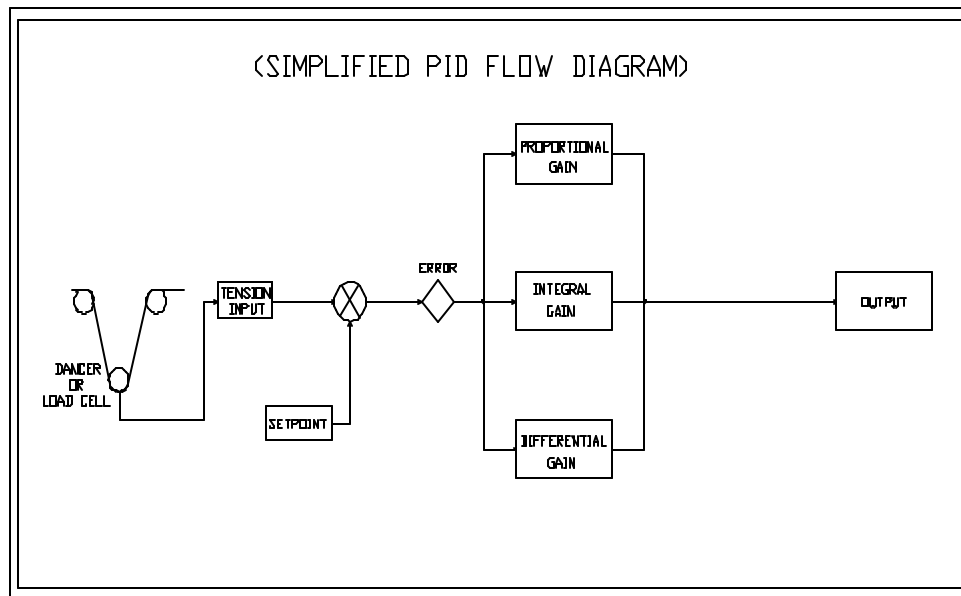

Fig. 1
P.I.D. (Proportional, Integral, Differential) provides three types of control in one. The input to any PID control is usually from a single source such as a dancer potentiometer, load cell, hall effect, proximity, flow or pressure transducer. The signal from the sensor is fed into the PID controller. The input from the sensor is compared with a setpoint that is normally adjusted to the value to be maintained during the process. If the input goes above or below the setpoint value there is error generated (i.e. the dancer arm goes above or below the set position). The error is then acted upon by the three separately tunable parameters which are Pgain, Igain, and Dgain which work to eliminate the error and return the transducer to its setpoint level. The PID parameters actually increase or decrease the input signal based on time and then are added together to form one composite output signal. The output signal then will partially or completely control the speed of the motor (i.e. line speed with trim, full dancer control). To view the simplified PID flow diagram refer to Fig. 1 below.